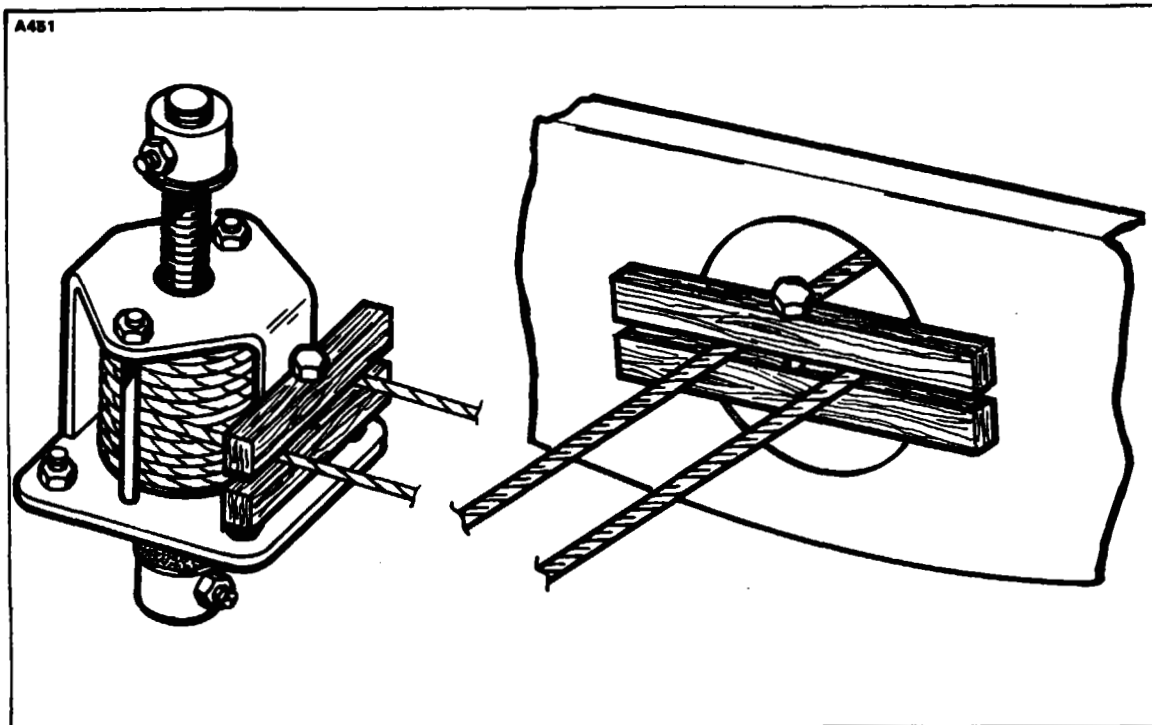

Figure 5-9. Methods of Blocking Trim Cables
- e. Block the trim cable at the trim drum to prevent it from unwrapping. (Refer to Figure 5-9.)
- a. Ascertain that the trim cable assembly (item 43, Figure 5-5) is evenly wrapped (centered) on drum (item 36, Figure 5-5 or item 19, Figure 5-6) as given in paragraph 5-48, and the cables are blocked to prevent them from unwrapping. (Refer to Figure 5-9.)